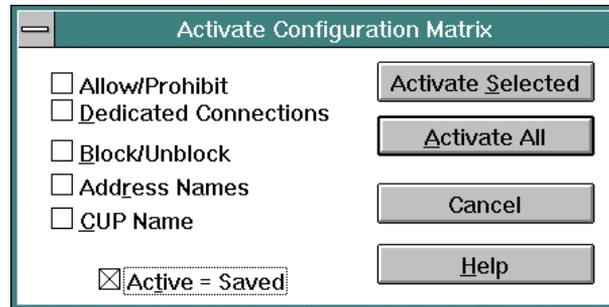

Figure 153. Activate Configuration Matrix Dialog Box
12. To install port attributes, select the *Activate Configuration Matrix* option from the *File* menu or press the **F6** key. The *Operator Authorization* dialog box appears. Type an operator authorization password (default is **LEVEL003**) and click the *OK* button. The *Activate Configuration Matrix* dialog box appears (Figure 153).